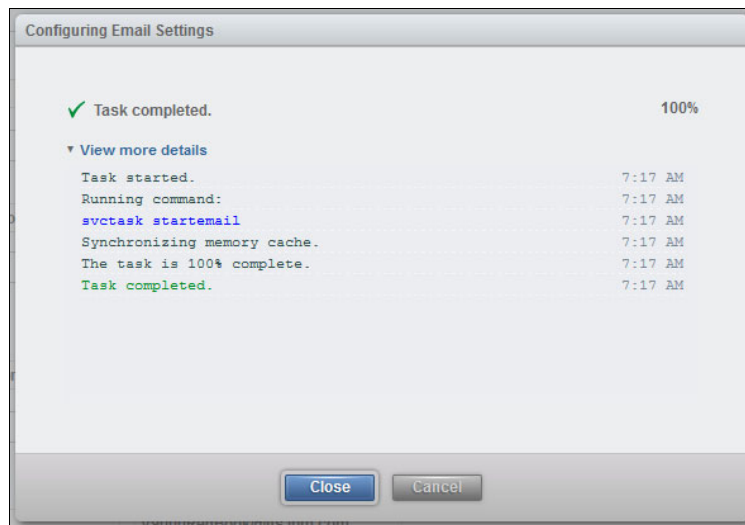

Figure 9-11 Results of starting the email service
- Review the command results, which are displayed in the Configuring Email Settings window (Figure 9-11). It indicates that the mail service started. Click **Close**.